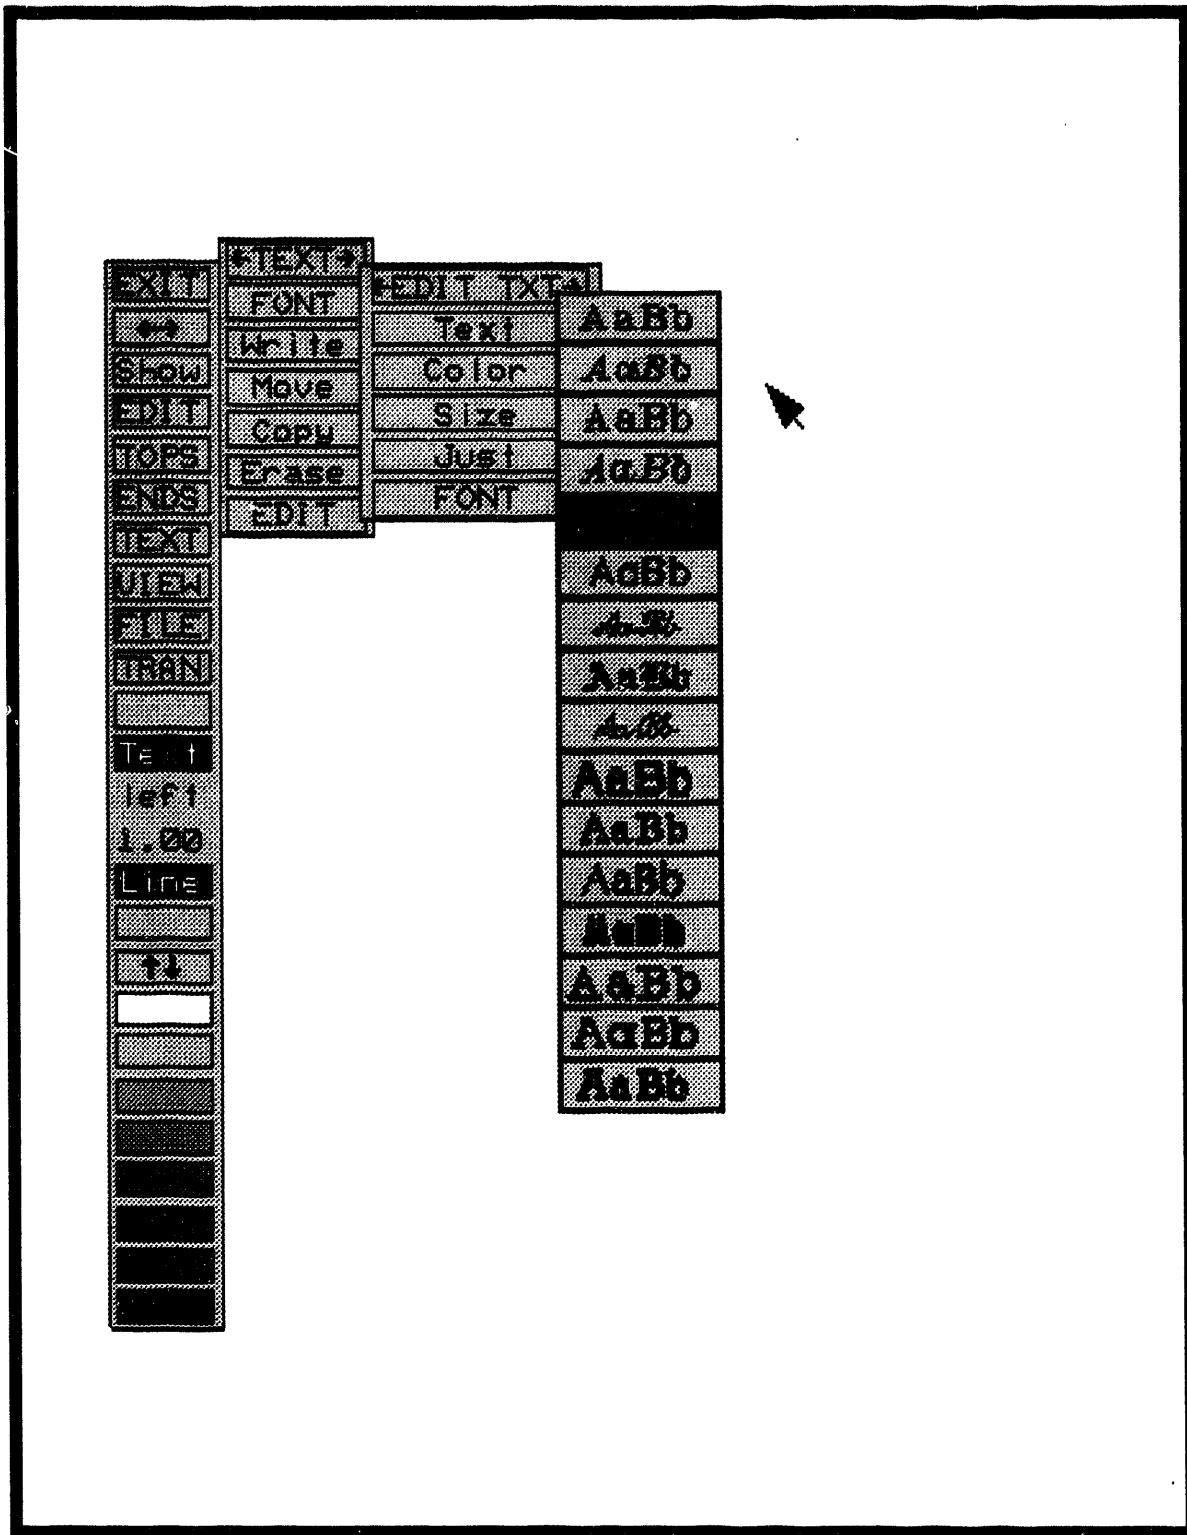

Figure 27. Text font selection menu.
5.7.7.6 FONT. This option allows you to select the font type for selected text. When you select this option an additional pop-up menu will be displayed (Figure 27). Select the desired font type by positioning the cursor over the font and pressing the left mouse button. You must select a font (or cancel) in order to continue. Next, you will be prompted to **Box the text to be changed**. Position the cursor over the text to be changed and press the left mouse button. A small dot will appear. Drag the cursor over the text to be modified. When the box completely surrounds the desired text, press the left mouse button. The selected text will be displayed in the new font type. Next, you will be prompted to **Box next region to be changed**. At this point you may select more text or press the right mouse button to terminate the process.